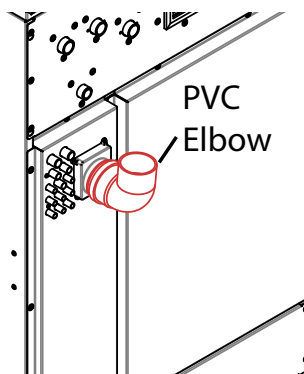

Fig. 5.16 PVC Elbow Installation
3. Install the elbow so that the opening faces upward, away from the floor. **Fig. 5.16** "PVC Elbow Installation" on page 21